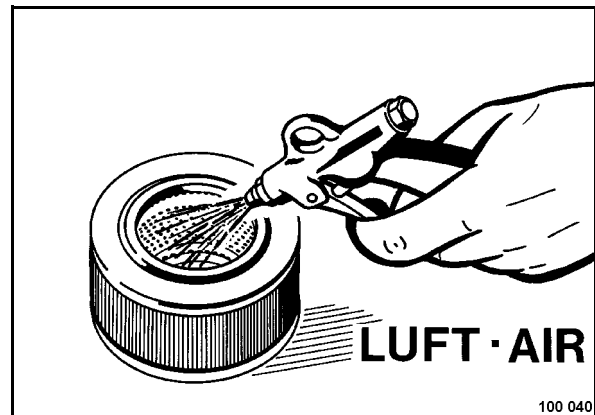

Fig. 82
- Blow the filter cartridge out from inside to outside with dry compressed air (max. 5 bar) (Fig. 82).